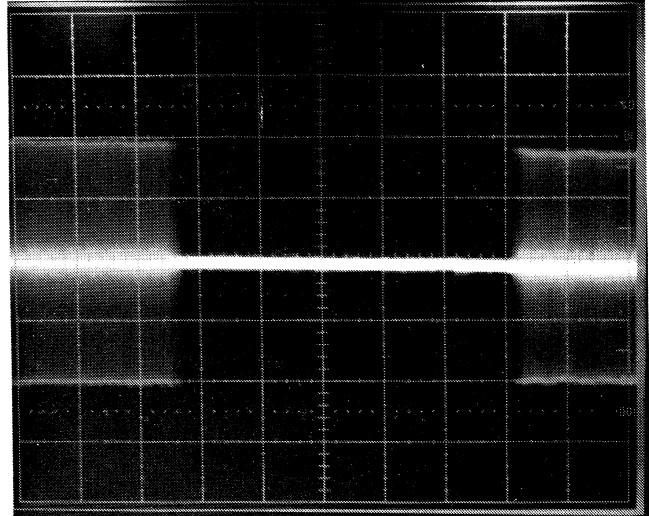

Figure A-3 550 μ s Gap Display
5. Observe that the gap width is 550 (\pm 50) μ s (Figure A-3). If the gap meets specifications, proceed to step 8.